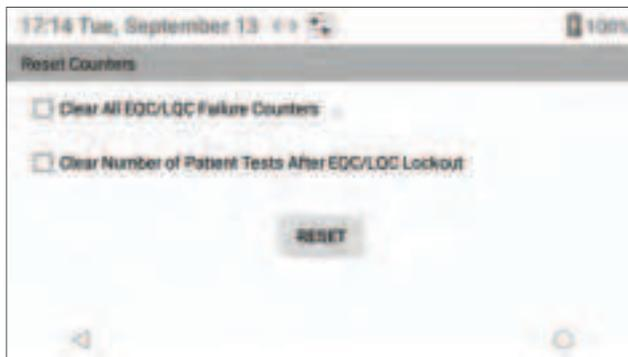

Figure 21: Reset Counters
- 2 Check the box for each counter that needs to be reset (Figure 21):